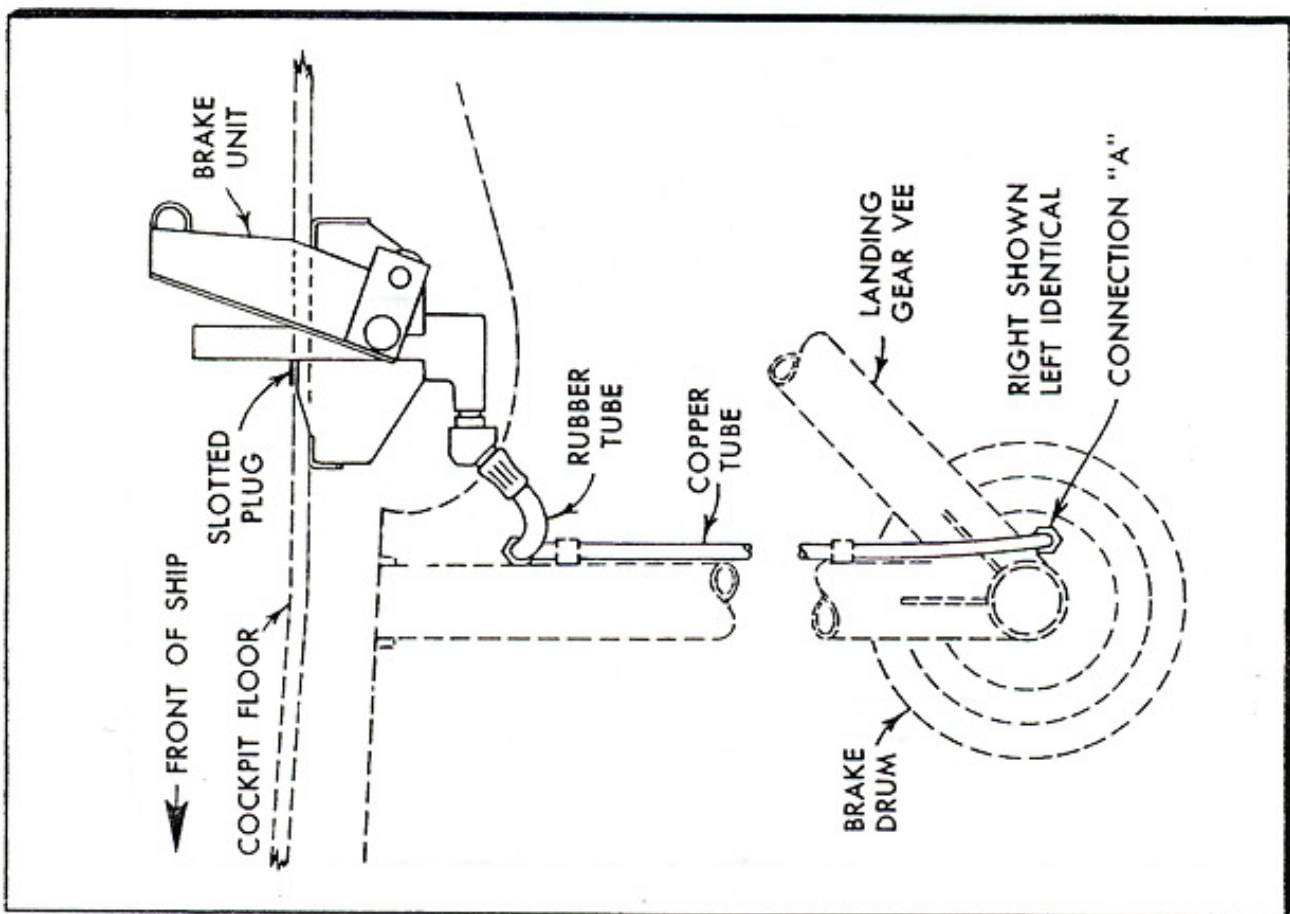

Figure 19—Hydraulic System (L-4A, L-4B)
(1) Repair or replace line; check line and all connections for leaks.
(2) Remove slotted plug from cylinder. (See figure 19.)
(4) Slowly pump pedal four or five full strokes.
(5) Open connection "A" at brake pressure plate fitting. (See figure 19.) Place a clean container under opening to prevent waste of fluid.
(6) Pump pedal ahead and hold it. The flow of fluid forces air out of the line.
(7) Close fitting either by tight pressure with thumb or by tightening the connection.
(8) Let pedal return.
(9) Open connection again.
- (10) Pump pedal ahead and hold it.
- (11) Tighten connection and allow pedal to return.
- (12) Fill cylinder completely.
- (13) Replace slotted plug.
- (14) Check pedal action. Action will be loose and sloppy if there is air in the line. Action will be firm and tight after approximately 1 inch of pedal travel when fluid completely fills the line.
- (15) Use the above procedure, paragraphs (2) to (14), inclusive, for bleeding brakes.
d. WHEEL BRAKES. (See figures 19 and 20.)
(1) A full hydraulic system of individual wheel braking is used. Heel-type brake pedals are mounted on each side of the cockpit. The rear set of pedals are part of the master cylinder. The front pedals are connected to the rear pedals by means of wire tie rods. Each pedal is thus connected to a master cylinder for individual control of the wheels for ground maneuvering.
(2) It is important that the cylinders be kept filled with genuine Houdaille or Univis No. 34 fluid, AAF Specification No. 3586, grade A, or AN Specification No. AN-VV-O-366, as any air bubbles introduced into the line due to a low fluid supply will cause a loss of brake effectiveness. This fact should be kept in mind when any work is done on the brake system. An indication of air in the brake lines is found in a "fading" pedal, that is, pressure applied to the pedal will cause the pedal to travel to its limit without the usual solid feeling. To remove the air or to service the system see section III, paragraph 7.
(3) It may be well to remember that air may be introduced into the lines if any fitting is disconnected. Care should be taken to prevent brake fluid from getting on brake linings during bleeding operations. Under no conditions should brake pedals be operated when wheels are removed as the brake linings may be sprung out of their housings causing damage to the linings or springs. The operating principle of these brakes depends upon the expansion of a rubber bag under the segments of brake lining. Lubricating oil will damage the system and for this reason only genuine Houdaille should be used on the models L-4A and L-4B, and Univis No. 34, AAF Specification No. 3586, grade A, or AN Specification No. AN-VV-O-366, should be used on the model L-4H.
(4) A routine inspection of the brake system is advisable.